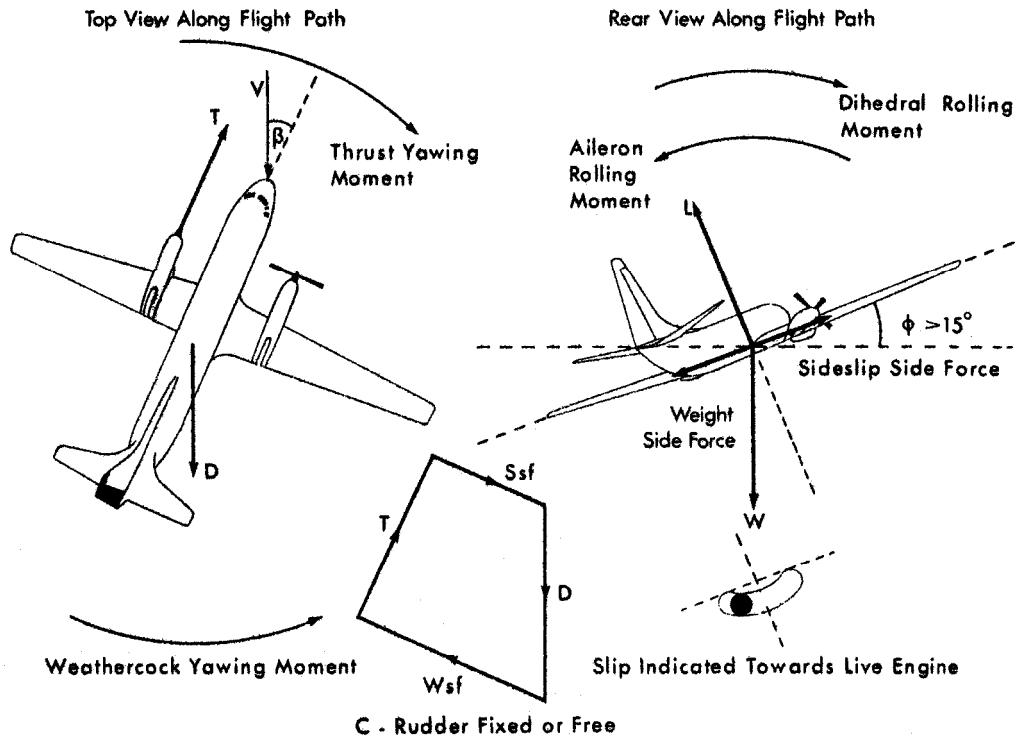

Fig 2C Forces Acting in Asymmetric Flight
**CAUTION.** It can be demonstrated that, with adequate directional stability available, it is possible to control an airplane in asymmetric flight without using the rudder (Figure 2C). If bank is applied towards the live engine, the airplane will attempt to turn against the torque about the CG due to the asymmetric thrust. A stable situation will occur when a sideslip develops towards the live engine and the weathercock yawing moment produced by the airplane's directional stability will balance the thrust yawing moment and the weight component produced by the bank will balance the sideslip side force. The sideslip towards the live engine will produce a rolling moment that must be balanced by the ailerons. In this case, the airplane is at a large angle of bank in steady heading flight and the slip ball will be well displaced towards the live engine.